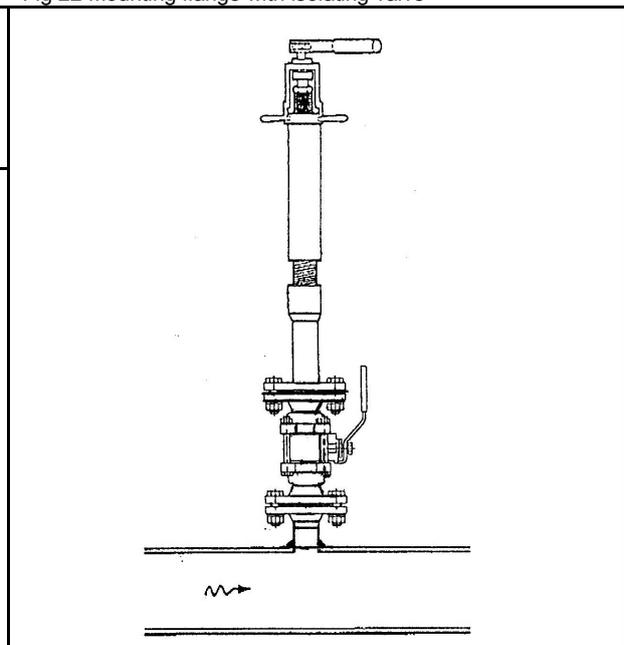

Fig 23 Drilling machine with flanged adapter nipple-mounted on unit isolating valve.
2. Tack the mounting stud [1 (see fig 23)] (supplied with the Flo-Tap) onto the pipe leaving a clearance of 1 to 2 mm. The bolt holes of the flange must be at 45° angles to the pipe axis (see fig 21).